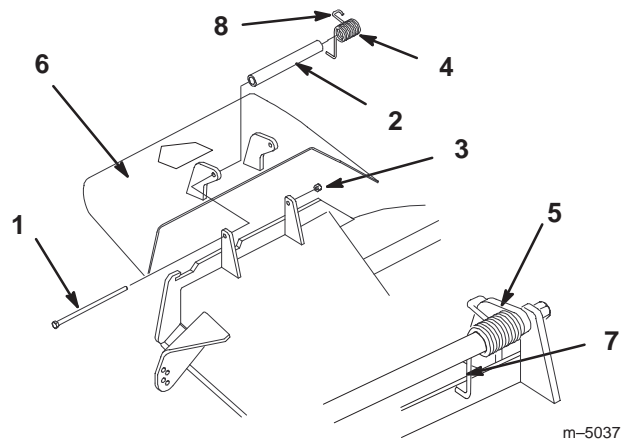

Figure 83
1. Remove the locknut, bolt, spring and spacer holding the deflector to the pivot brackets (Fig. 83). Remove damaged or worn grass deflector.
Note: Make sure the L end of spring is installed behind deck edge before installing the bolt as shown in figure 83.
3. Install bolt and nut. Place the J hook end of spring around grass deflector (Fig. 83).